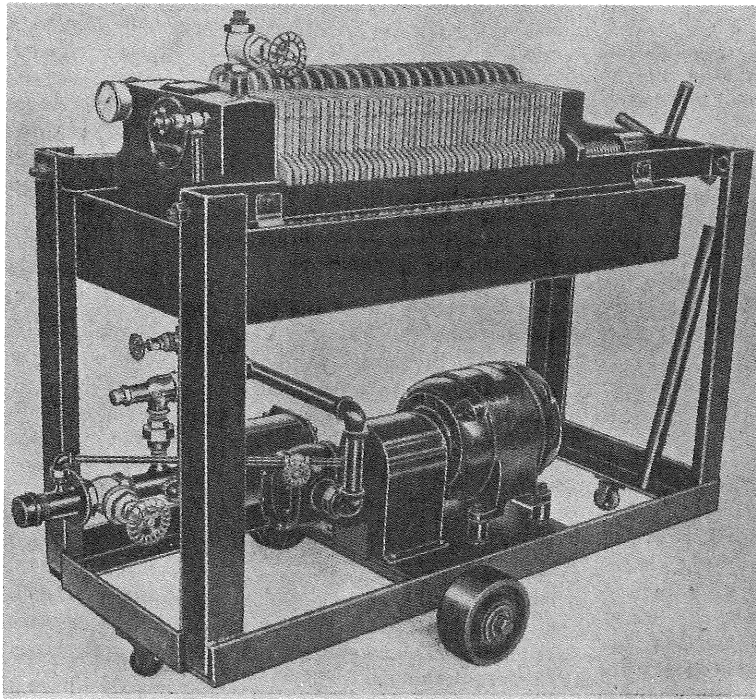

FIG. 10—A-30 OIL FILTER PRESS
**Blotter Filter Press**—The filter press is essentially a number of sets of filter papers in parallel, each set containing several thicknesses. The oil is pumped through the filter paper which absorbs the water and strains out the sediment. (See Fig. 10).